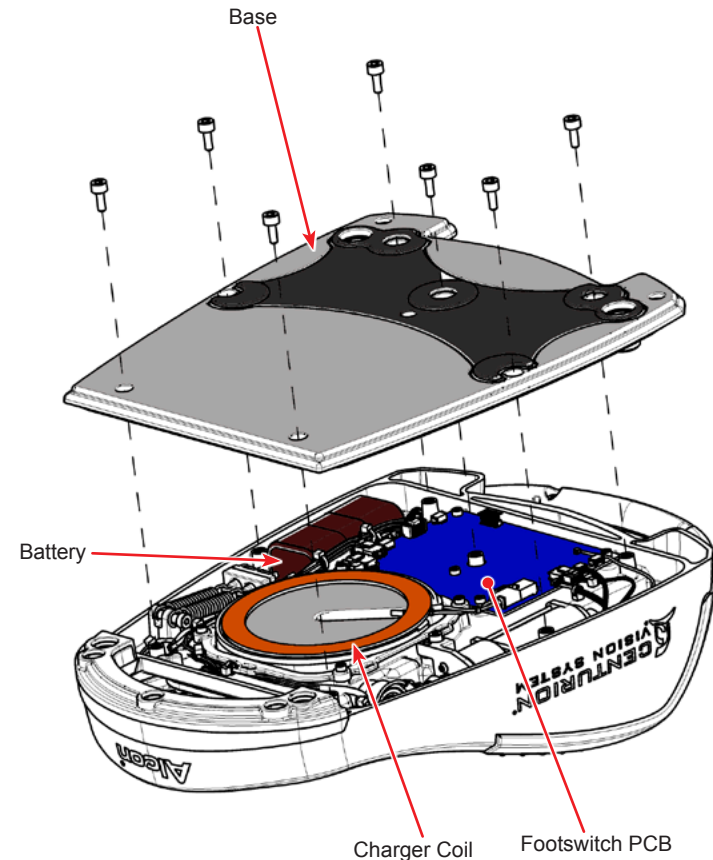

Figure 3-64 Footswitch Base Removal
- 52.2 Remove seven 4 mm hex screws securing Base to main housing (see Figure 3-64). Remove Base.